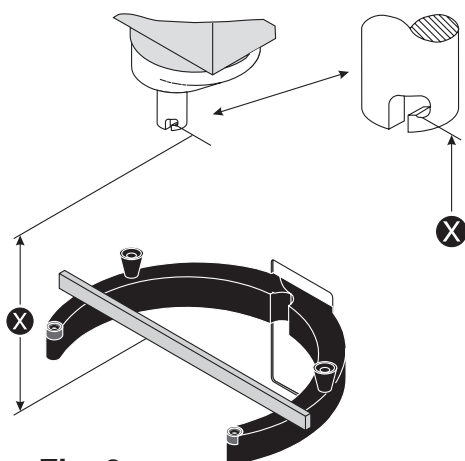

Fig. 2a
The distance (X) is measured from the bottom side of the bayonet hole to the surface on the bowl arms on which the bowl rests (**fig. 2a**). The bowl arms must be lifted to normal working position.
The distance (X) (**fig. 2a**) is measured from the bottom side of the bayonet hole to the surface on the bowl arms on which the bowl rests. The bowl arms must be lifted to normal working position. A steel guide can be used on top of the bowl arms.